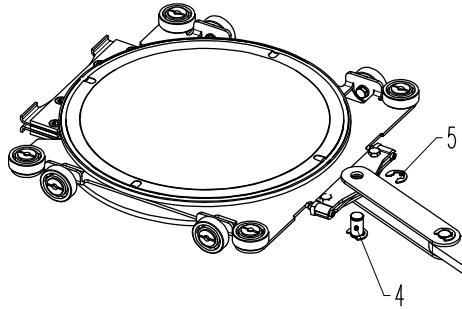

Figure 7-3
5. Remove locking ring (5) according to «Figure 7-3» on page 16.
6. Withdraw bolt (4) by pulling it downwards according to «Figure 7-3» on page 16.
9. Mount bolt (4) according to «Figure 7-3» on page 16.
10. Mount locking ring (5) according to «Figure 7-3» on page 16.